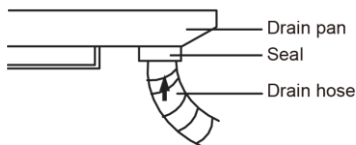

Fig. 4.21
- (1). For determining the position of the drain hose, perform the following procedures.
- (2). Insert the drain pipe to the drain outlet of the unit and then tighten the clamp securely with tape (Fig. 4.21).
- (3). Connect the extension drain pipe to the drain pipe and then tighten the clamp with tape.